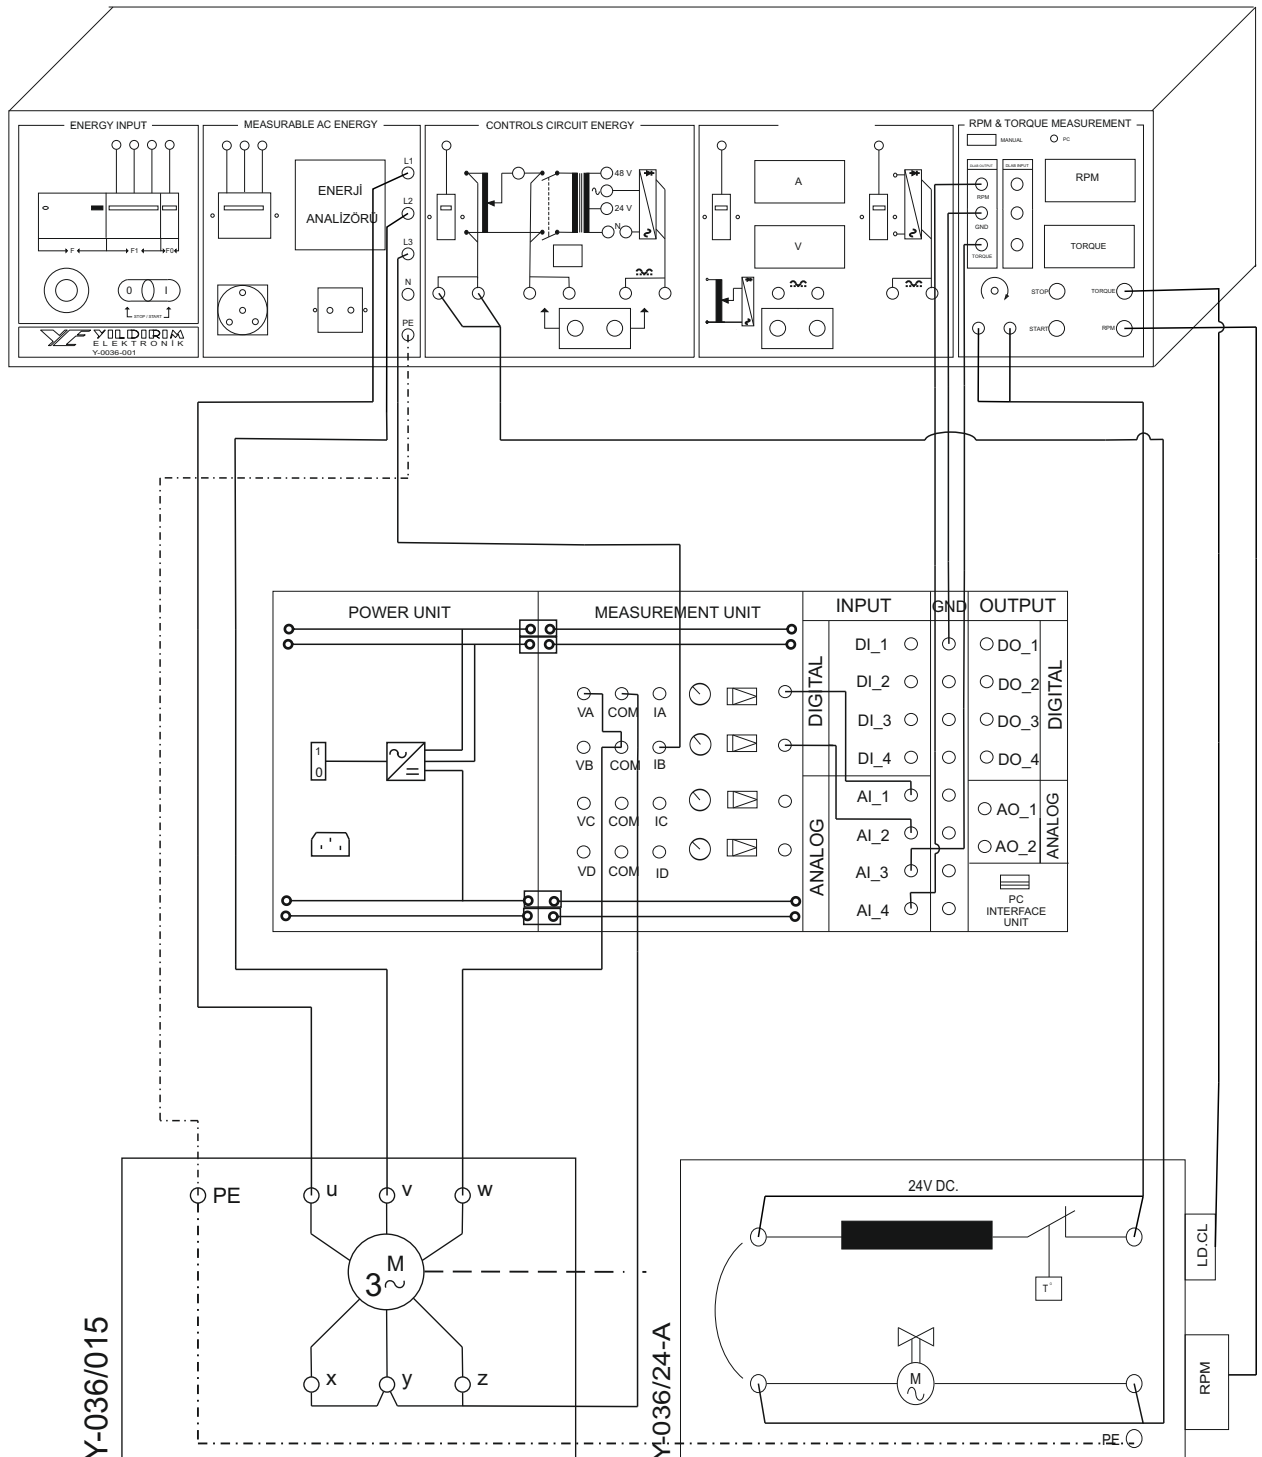

Figure 36.1:Connection diagram for the loaded operation of the tri-phase asynchronous motor
- Connect the circuit shown in the figure 36.1, 36.2